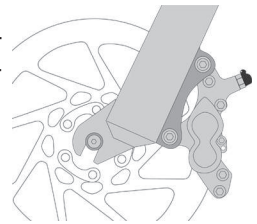
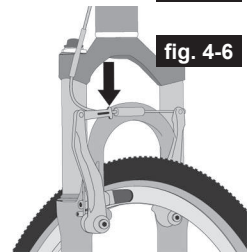
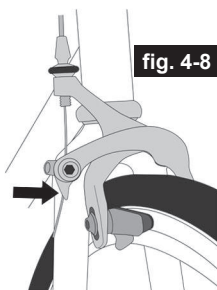
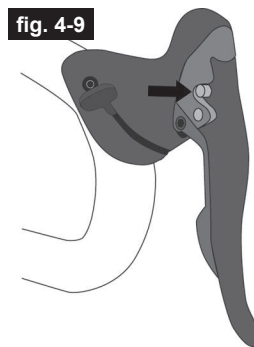

fig. 4-5
fig. 4-6
fig. 4-8
fig. 4-9
1. If your bike has rim brakes, disengage the brake's quick-release mechanism to increase the clearance between the tire and the brake pads (See "Brakes" on page 30, fig. 4-5 through fig. 4-9).
rim and the brake pads (see "Brakes" on page 30, fig. 4-5 through fig. 4-9).
- ▶ Some bicycle brakes, such as disc brakes (fig. 4-5) and linear-pull brakes (fig. 4-6), are extremely powerful. Take
Most rim brakes have some form of quick-release mechanism to allow the brake pads to clear the tire when a wheel is removed or reinstalled. When the brake quick release is in the open position, the brakes are inoperative. Ask your dealer to make sure that you understand the way the brake quick release works on your bike (see fig. 4-6 through fig. 4-8) and check each time to make sure both brakes work correctly before you get on the bike.